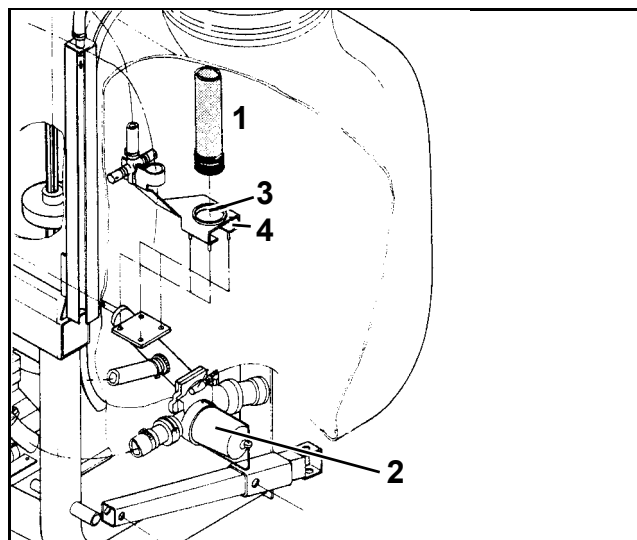

Fig. 145
The use of the urea filter (Fig. 145/1) is recommended when filling with urea to avoid undiluted particles reaching into the suction area and to blocking the filter tap (Fig. 145/2).
- Remove the plug of the screw-in opening (Fig. 145/3) in the tank sump.
- Screw in the urea filter by spinning it clock-wise into the bottom (Fig. 145/4).